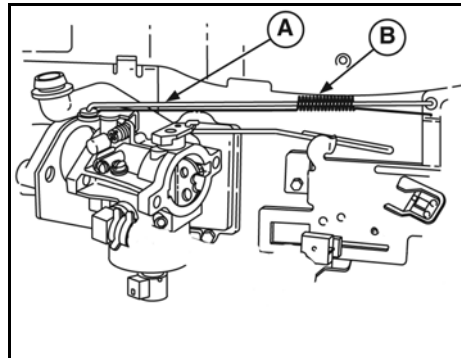

Figure 53
2. Hook governor spring (B, Figure 53) in throttle lever hole without grommet. Hook governor link (A) in throttle lever hole with grommet.